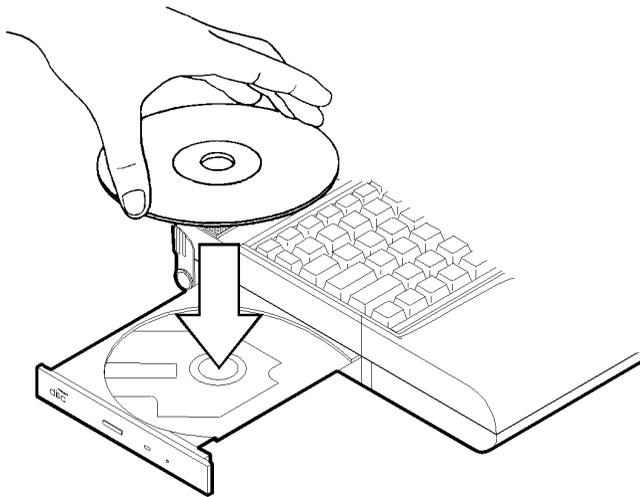

Figure 2-14
4. Carefully load the CD into the disc tray with label-side facing up. Press it gently to ensure it fits into the place (Figure 2-14).